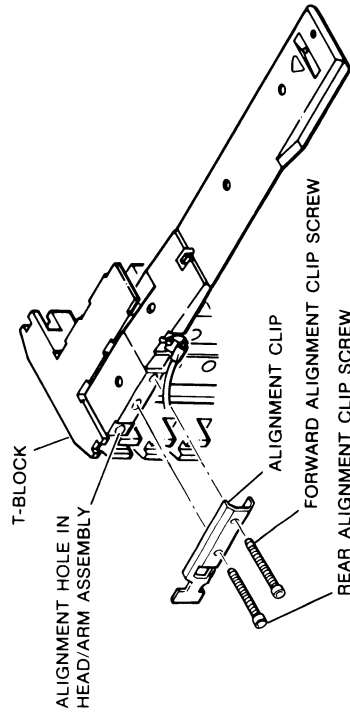

FIGURE 4-5. HEAD ALIGNMENT CLIP AND SCREWS
6. Referring to Figure 4-5, remove the two alignment clip screws and the alignment clip which hold the head assembly in the T-block slot.